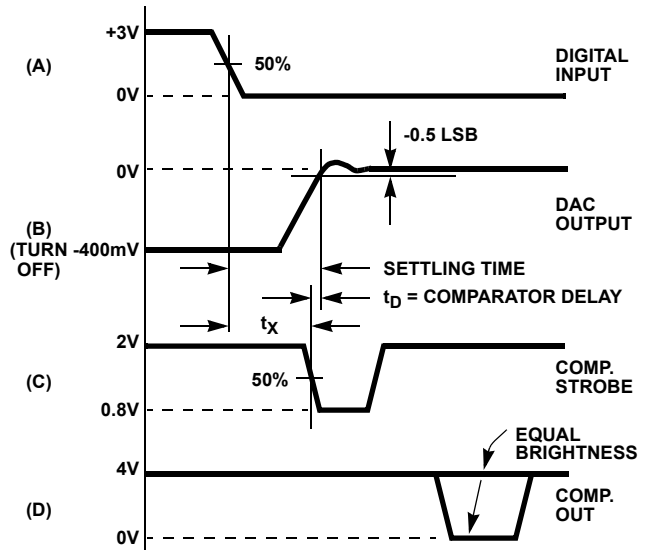

FIGURE 3B.
As shown in Figure 3B, settling time equals t_χ plus the comparator delay (t_D = 15ns). To measure t_χ:
- Adjust the V_{LSB} supply for 50% triggering at COMPARATOR OUT. This is indicated by traces of equal brightness on the oscilloscope display as shown in Figure 3B. Note DVM reading.
- Switch the LSB to Pulse (P).
- Measure t_χ from scope as shown in Figure 3B. Settling time equals t_χ + t_D, i.e., t_χ + 15ns.